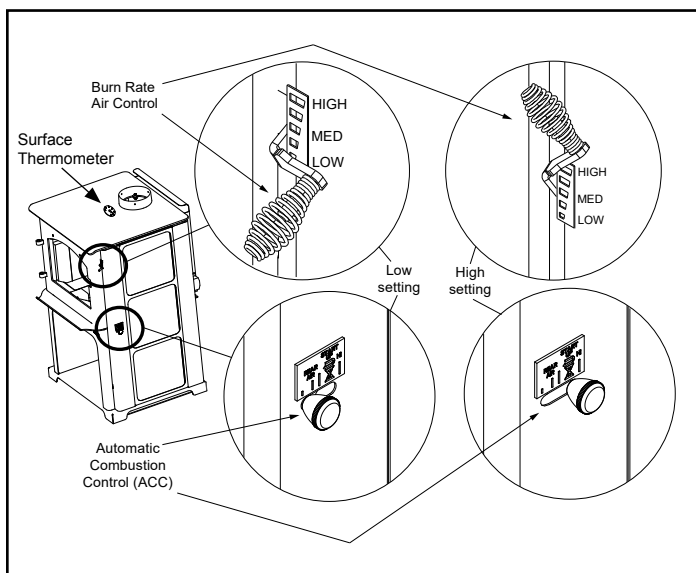

Figure 10.1
2. **Second Stage:** The next stage of burning, the secondary stage, is the period when the wood gives off flammable gases which burn above the fuel with bright flames. During this stage of burning it is very important that the flames be maintained and not allowed to go out. This will ensure the cleanest possible fire. If the flames tend to go out, it is set too low for your burning conditions. The air control located at the upper right hand corner is used to adjust for burn rates. This is called the **Burn Rate Air Control (Figure 10.1)**.
- Then activate the ACC timer system by pushing the knob all the way back toward the appliance to “HI” then pull forwards towards the front of the appliance until the knob stops (**Figure 10.1**).
A surface thermometer tells you when to adjust the air control, and when to refuel, Figure 10.1.